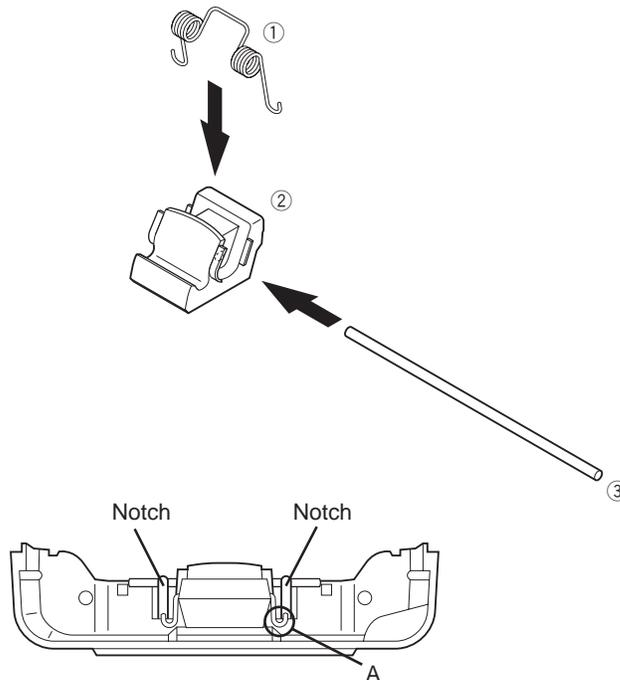

Fig. 4
Place a coil spring(①) on the release latch(②) as shown in the figure 4.